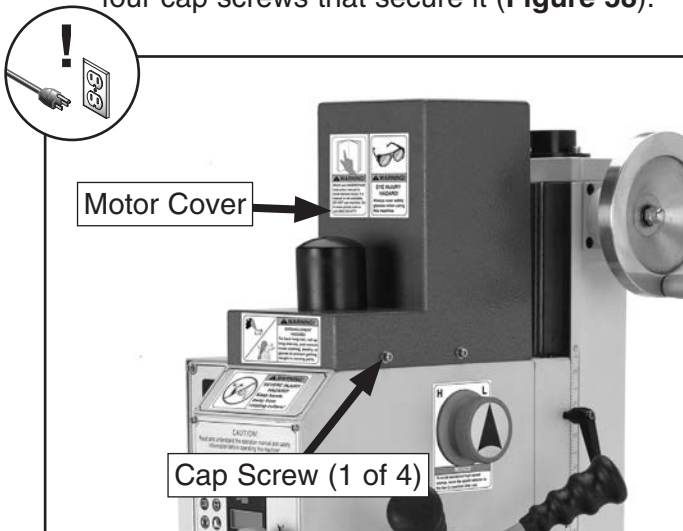

Figure 58. Removing motor cover.
2. Un-install the motor cover by removing the four cap screws that secure it (**Figure 58**).